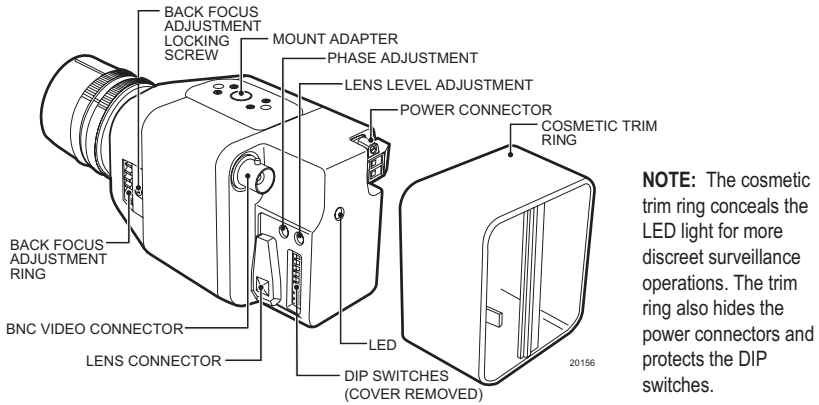

Figure 1. Camera Layout
2. Remove the cosmetic trim ring from the back of the camera (refer to Figure 1). Set the lens mode selector switch on the side of the camera to AIV (auto iris video drive lens) or AID (auto iris DC drive lens). Refer to the *Switch Settings* section. Switch setting is determined by the type of lens used.
The camera is designed to operate from a 12 VDC or 24 VAC power supply. The power supply connections are shown in Figure 1. The LED on the back panel of the camera indicates that power is connected. Use only a Class 2 isolated power supply. See Specifications for power consumption.
1. Remove the cosmetic trim ring from the camera (refer to Figure 1). Thread cabling through the rear cover.
Set the lens mode selector switch to AID (default setting). Switch the ESC and AGC OFF. Use an appropriate screwdriver to turn the lens level potentiometer (refer to Figure 1) fully clockwise. Next, slowly adjust the potentiometer counterclockwise until the optimum picture is obtained (video output level of 1V peak-to-peak). To focus, fully open the iris by covering the lens with a suitable neutral density (ND*) filter. Select the scene to be viewed. If the viewed scene is 6.5 feet (2 m) away or farther, set the lens focus to infinity (far). Use the back focus adjustment ring (refer to the Back Focus Adjustment section) and focus on the selected scene. Remove the ND filter and set the lens focus as required. When finished, switch the ESC and AGC ON.